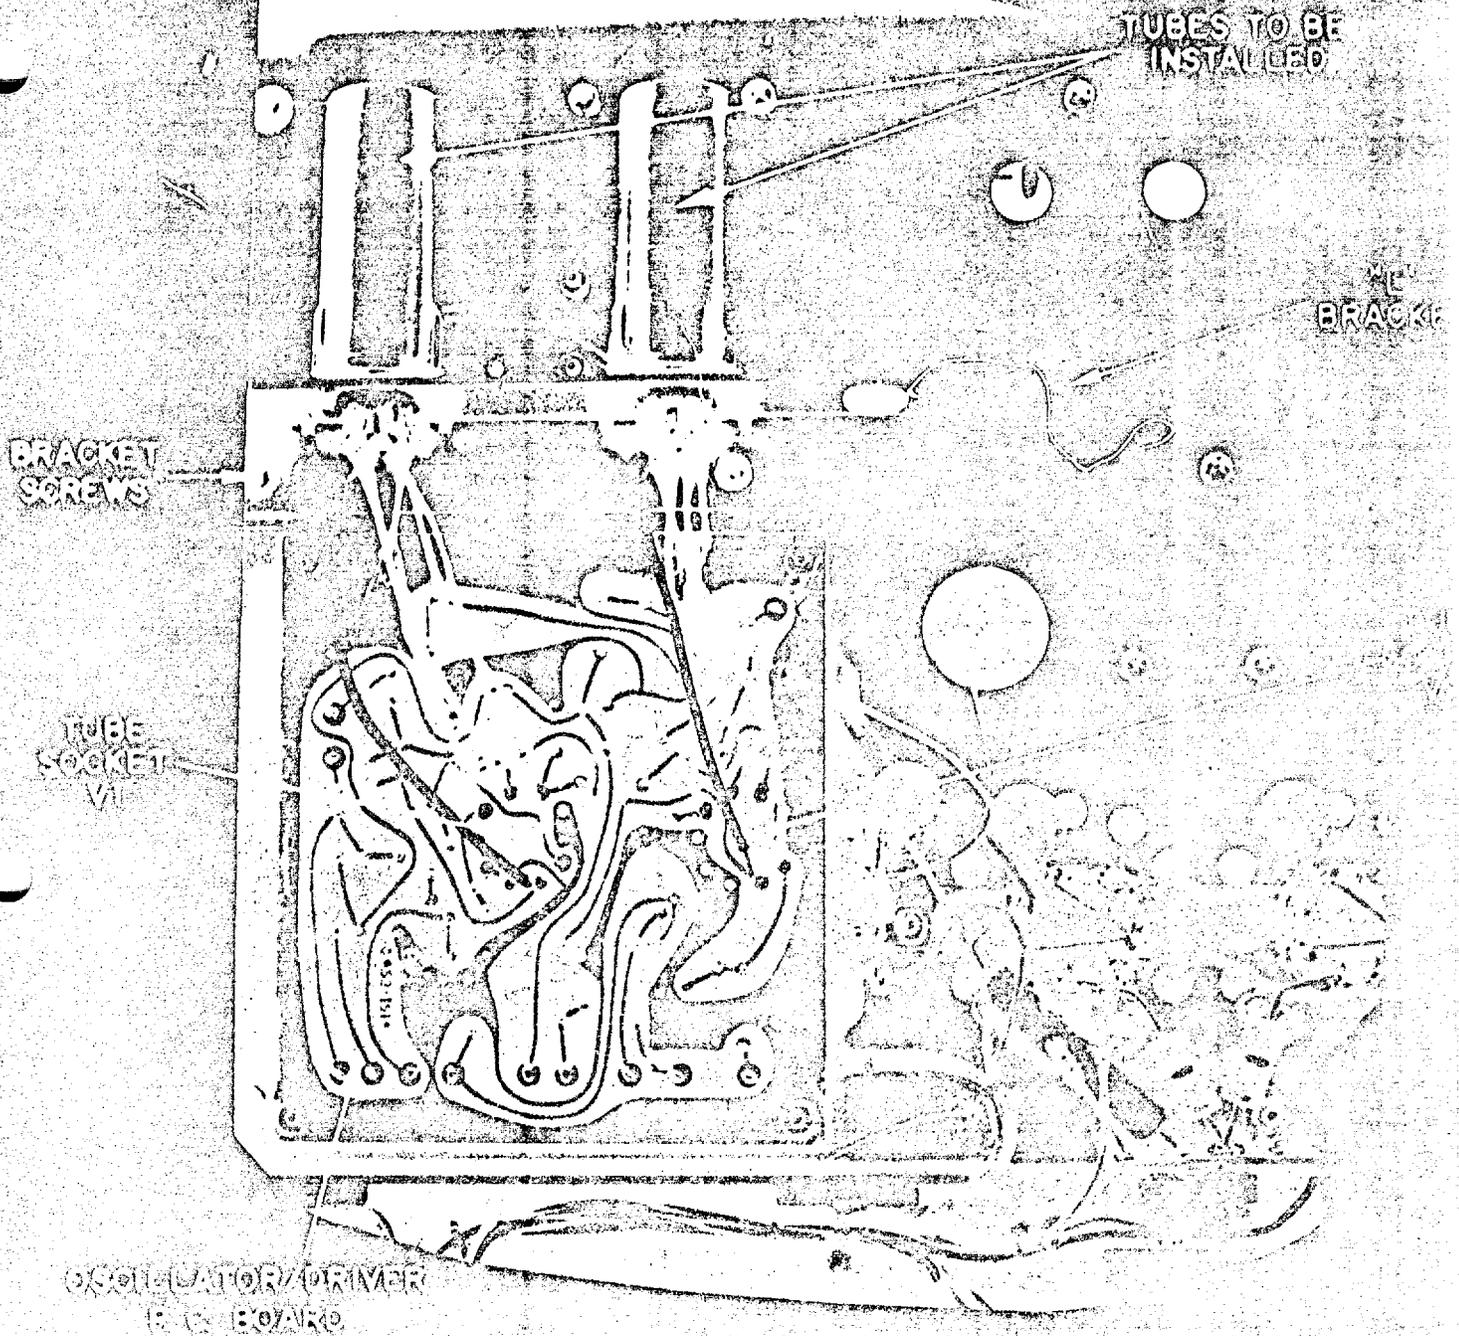

FIGURE 4 RE-102 TRANSMITTER
- 4.5 Reinstall bracket forward of the original location (toward front panel) using the same three screws removed in Step 4.3. See Figure 4.